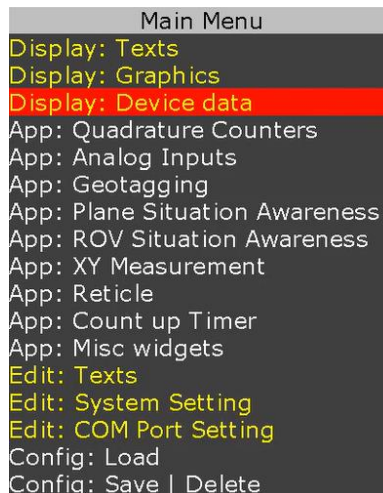
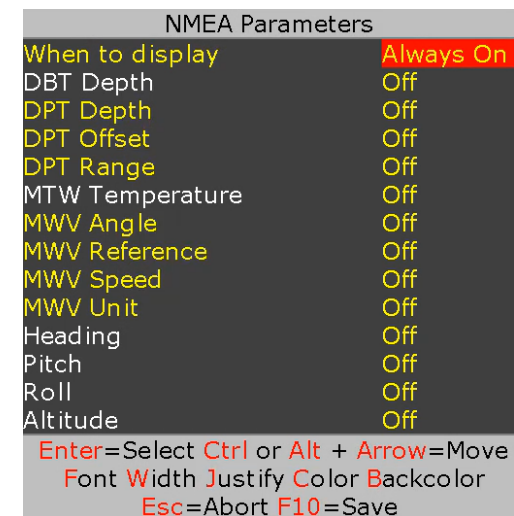

Figure 23
Figure 25
- For above messages, just configure COM port and PROTEUS is ready to receive messages & manage your visual data. Follow Figure 23-Figure 25 and Figure 20 - Figure 22 to display NMEA parameters.